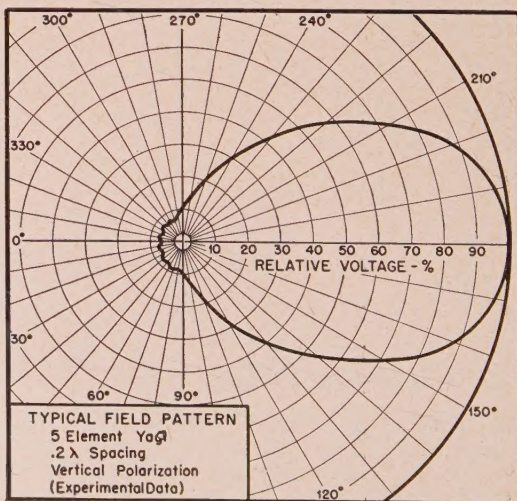
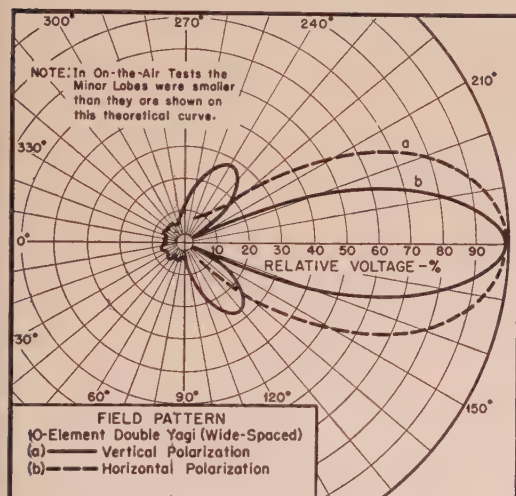

Figure 2
Figure 3
Now, for the time being, forget those two dipoles and consider the famous Yagi or parasitic array. Many articles have been published showing the possible field patterns which may be developed with a system of parasitic directors and reflectors.3 Conservatively speaking, it takes the mathematics of Einstein and the patience of Job to calculate the field pattern and gain of one of these simple little gadgets. Rather than attempt to figure the performance out on paper, and being a lazy sort of fellow, we built up a little five-element Yagi using 0.2-wavelength spacing and "Handbook" dimensions. In spite of the three directors and one reflector, the feed impedance was not zero, or infinite, and, as a matter of fact, it was a cinch to match to a 300-ohm line. The field pattern looked like that shown in Fig. 2.
**Fig. 1c** and the smooth uni-directional single lobe pattern of the Yagi (Fig. 2). Thus, the idea of using two five-element Yagi antennas at a spacing of a full wavelength was born. The resultant pattern is shown in Fig. 3. This pattern is for vertical polarization. When the array is operated to obtain horizontal polarization, the broadside stacking of the two Yagi antennas seems to have a negligible effect on the sharpness of the forward lobe, and the field pattern is that of a single five-element Yagi. This pattern is shown in Fig. 3 as the dashed line. All of these patterns have been verified by measurements, using a 1/3-scale model (420 mc) in the laboratory and using the full-scale array after it was erected in many on-the-air tests with stations at various distances in several directions.